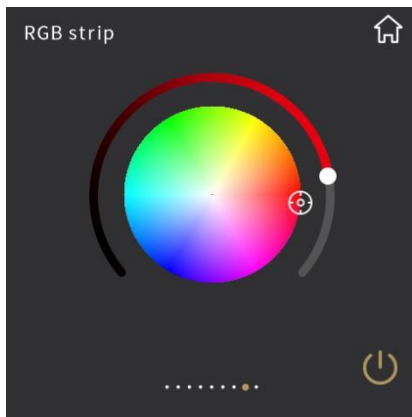

Fig.2.7.1
② **This area displays the page description identification of RGB dimming function page, user can define the description through ETS;**
③ **Return to the home page by touching this icon;**
④ **This ring slider is used to adjust the colour shade of the RGB lamp;**
⑤ **This icon is the colour palette;**
When RGB dimming function is configured as RGB, function page interface as shown in Fig.2.7.1, sliding ring slider④ to adjust the colour shade of RGB lamp, when ring slider④ is slid to the left bottom, RGB lamp is completely OFF, at this time, the button① become gray, and no reaction when operate the colour palette⑤.